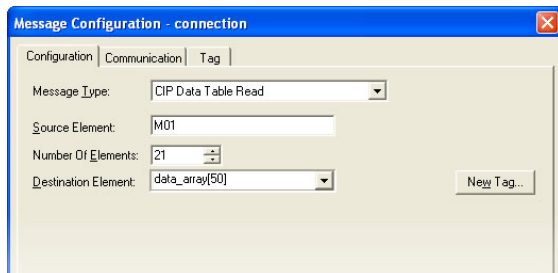

Figure 98: MSG Instruction Configuration
- b) Click the message configuration button ("...") in the MSG instruction. The "Message Configuration" window will open. Refer to Figure 98.